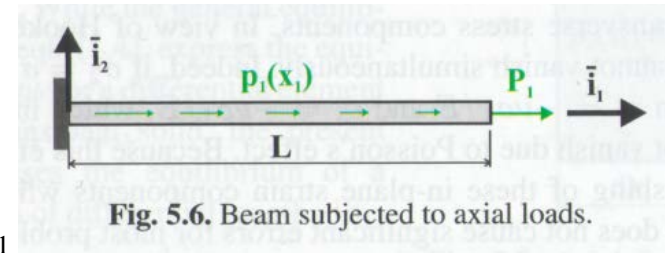

Fig. 5.6. Beam subjected to axial loads.
- Beam subjected only to axial loads (Fig. 5.6)